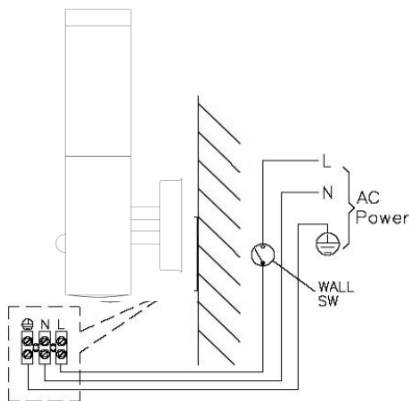

FIGURE 5
- (1) **WARNING** isolate the power supply.
- (2) An internal single pole wall switch is recommended to allow easy control of the Column Light. FIGURE 5
- (3) Connect the supply cable to the unit. FIGURE 5 Strip approximately 6-8mm of inner core insulation from the supply cable.
- (4) Connect the **BROWN** wire (Live wire) to the terminal marked "L". Connect the **BLUE** wire (Neutral wire) to the terminal marked "N". Connect the **GREEN/YELLOW** wire to the terminal marked